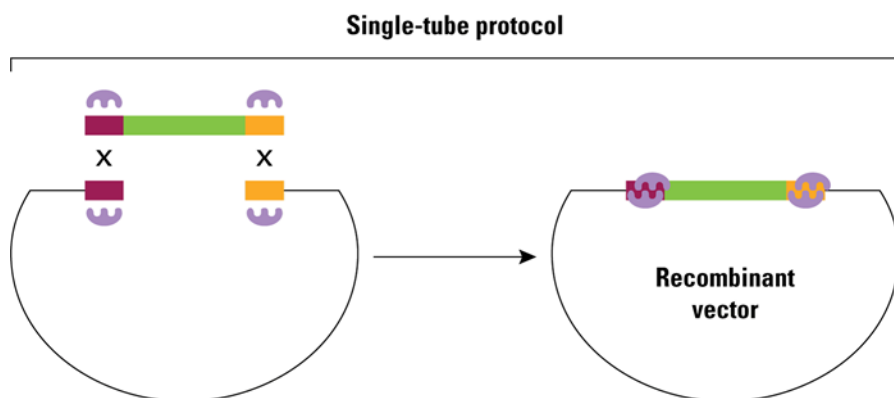

Figure 3. The In-Fusion HD Single-Tube Cloning Protocol.
You need to clone your gene of interest into the corresponding pRetroX-PTuner vectors so it is in-frame with the destabilization domain (DD) encoding sequence. We recommend using the In-Fusion HD Cloning System (Section III.K; Figure 3), a revolutionary technology that permits highly efficient, seamless, and directional cloning. The technology is described at [takarabio.com/in-fusion](http://takarabio.com/in-fusion)